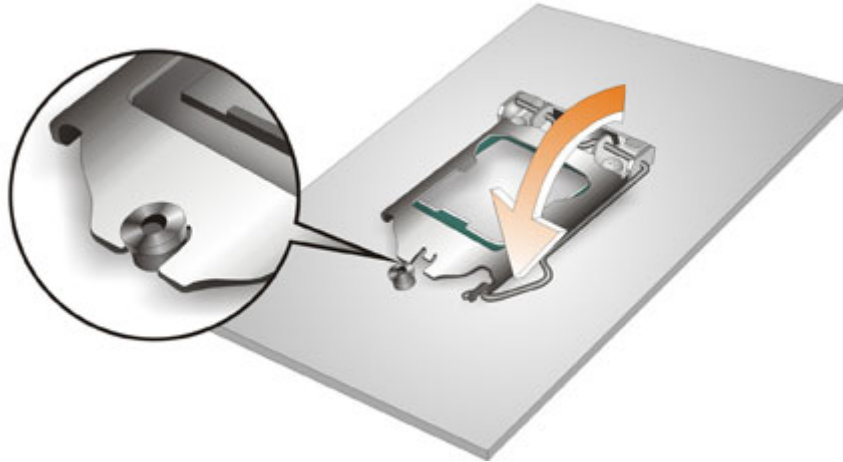

Figure 3-10: Close the Socket LGA1151
Step 9: Close the CPU socket. Close the load plate and pull the load lever back a little to have the load plate be able to secure to the knob. Engage the load lever by pushing it back to its original position (**Figure 3-10**). There will be some resistance, but will not require extreme pressure.